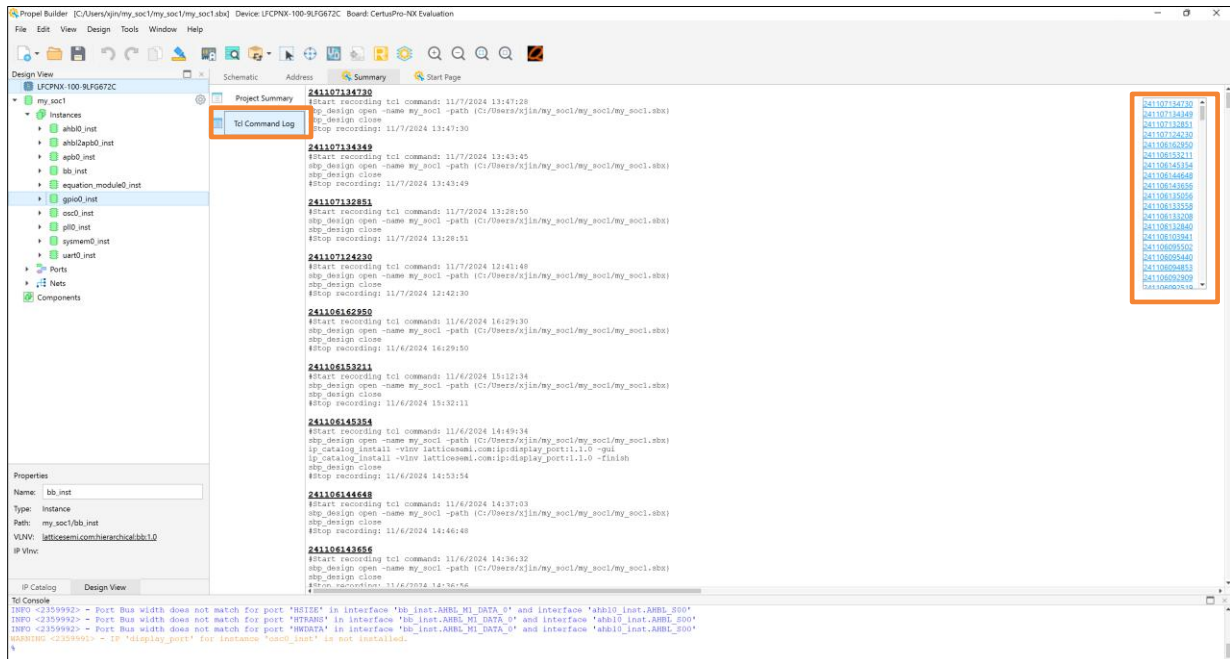

Figure 2.16. SoC Project Summary – Tcl Command Log
- Click **Tcl Command Log** in **Summary** (Figure 2.16) to see all history Tcl command of this SoC project.